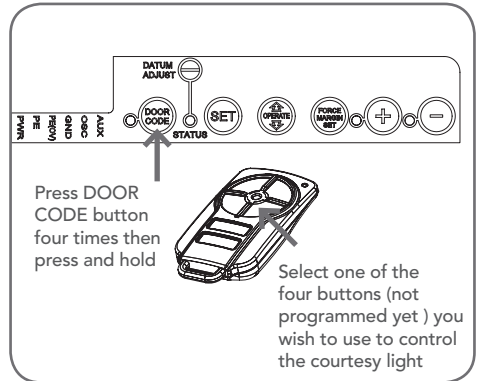

Fig. 8.3
- Press and hold the DOOR CODE button four (4) times, then press it again and hold (the opener will beep five times on the five press (**Fig. 8.3**)).
- Choose a transmitter button not already coded into the receiver. Press and hold this button for two (2) seconds, pause for two (2) seconds, then press the same button again for two (2) seconds and release.